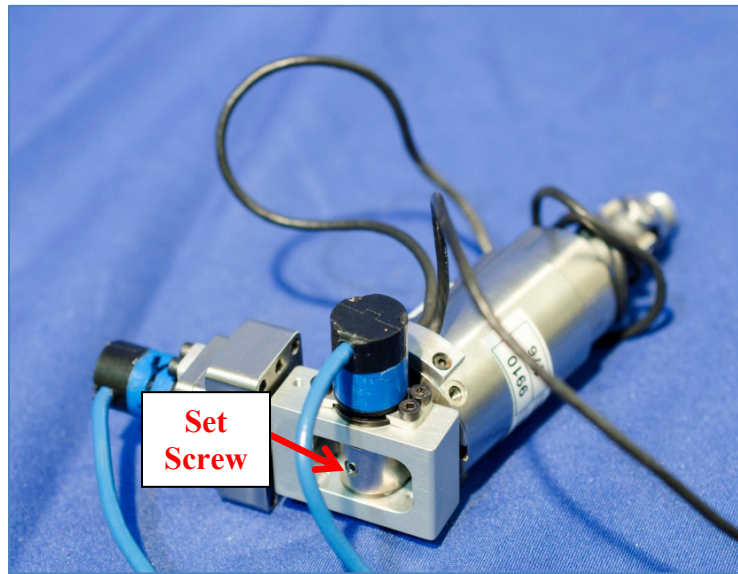

Figure 9-11. Install Z-axis rotary potentiometer
- 9.2.2.7 Before inserting the Z-axis rotary potentiometer shaft into the vertical shaft, assure that the potentiometer will not pass through a dead band when moved through its range of motion in the lower abdomen. Rotate the shaft until the potentiometer output voltage is approximately 0 volts so that the potentiometer is near mid-range. Once this is complete, insert the potentiometer shaft into the vertical shaft. Tighten the set-screw (472-4740) against the potentiometer shaft (Figure 9-11).